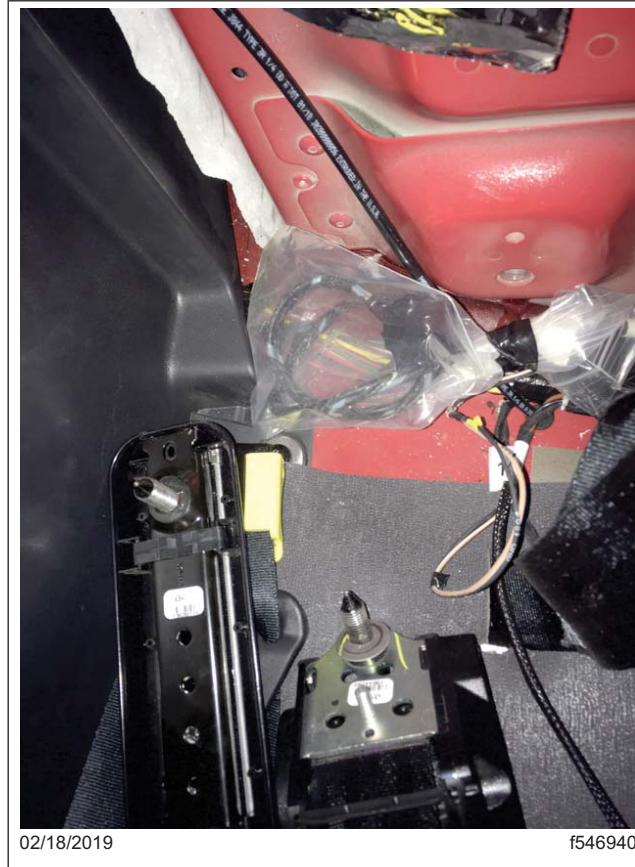

Fig. 10, Harness Secured Behind the Seat
- 16.7 Wrap the connectors with electrical tape, coil the harness, and place the harness into a small plastic bag. Tape the bag shut to protect the harness from moisture or debris, then secure the plastic bag to the airbag sensor. See Fig. 10.
- 16.8 Place the bag behind the seat, and verify that it does not interfere with seat belt retractor operation or the seat suspension mechanism. See Fig. 10.